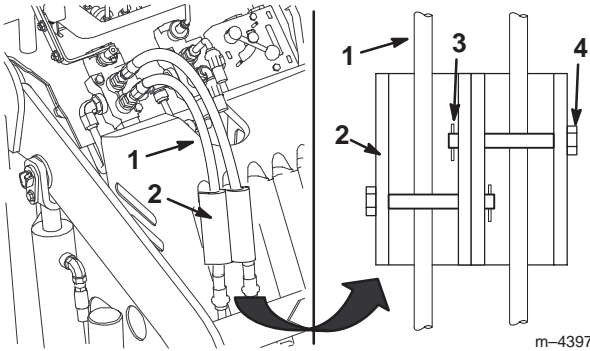

Figure 16
- Install the cylinder locks over the hydraulic hoses and secure them with the clevis pins and cotter pins (Fig. 16).